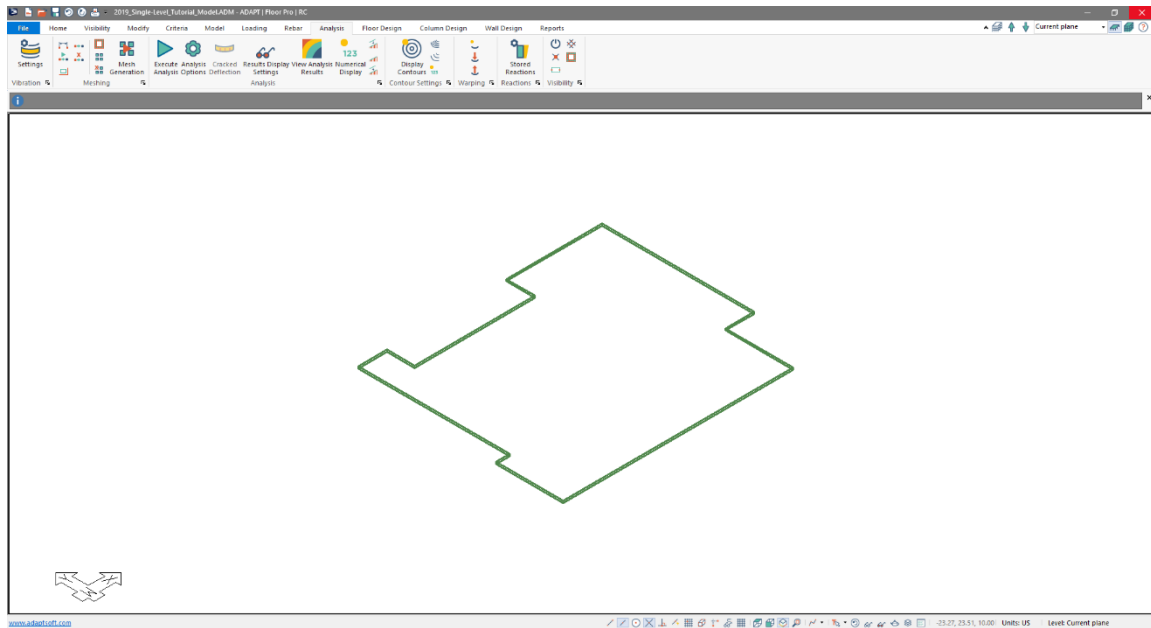

Figure 4-2
- Left-Click on the slab region to select it. Once the slab is selected it should be highlighted in a red color as shown in **FIGURE 4-2**.